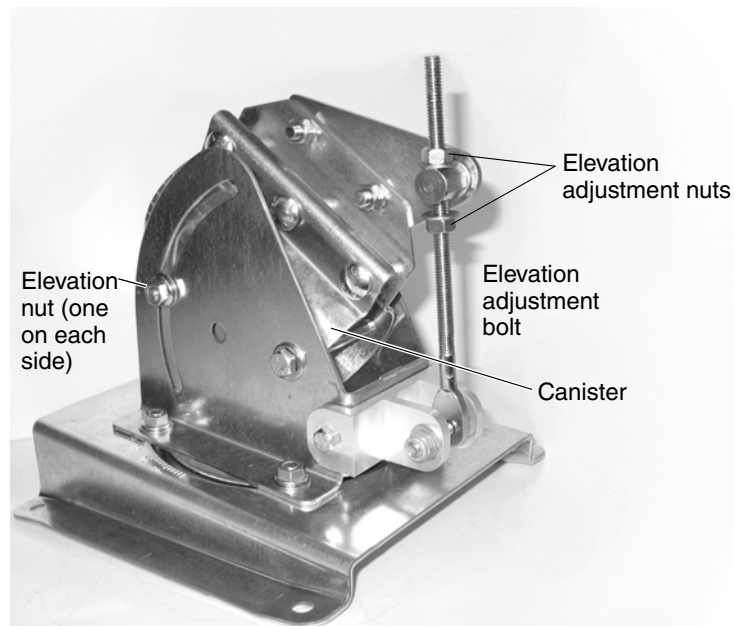

Figure 43: Elevation nuts
1. Loosen the two elevation nuts. See Figure 43.
The elevation nuts are located on the curved slots on each side of the canister. Do not confuse the elevation nuts with the *elevation adjustment nuts* (also shown in Figure 43).
3. When the signal is peaked, tighten the two elevation nuts. (See Figure 43 on page 47.)